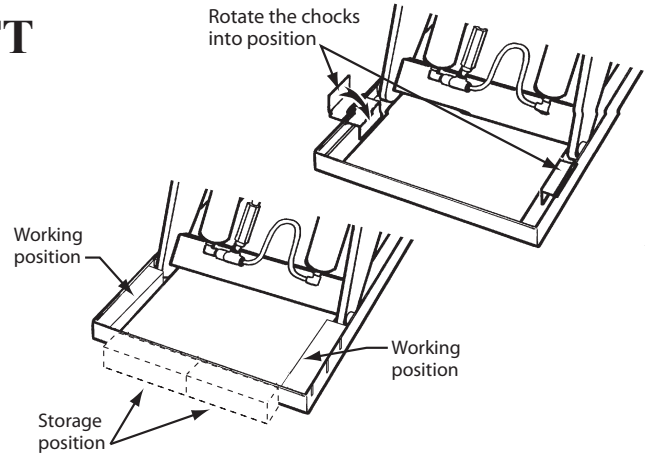

Figure 1 – Safe Servicing of Lift
3. Remove the maintenance device(s) from its/their storage location and place it/them into the engaged position as shown in Figure 1. (Note: further information may be useful here to provide additional instructions as to the location and method of storage and engaged positions).
Raise and chock the lift, as shown in Figure 1.
When adjusting the flow control, always raise the lift table and insert the maintenance chocks, as shown in Figure 1. Do not try to adjust the flow control while pressing the “down” button. If you try this, the lift table may drop suddenly, and you may be hurt.
- **Raise the lift table and insert the maintenance chocks,** as shown in Figure 1.
- Every time you want to change the adjustment again, raise the table again and insert the maintenance chocks as shown in Figure 1.